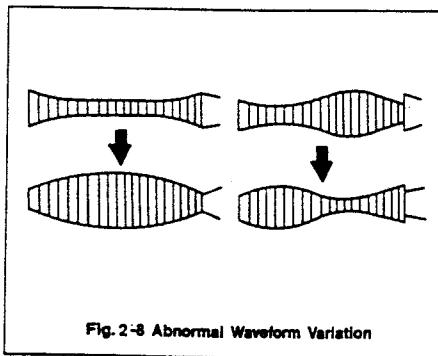

Fig. 2-8 Abnormal Waveform Variation
- If the envelope varies as shown in Fig. 2-8, adjustment of the S-Guide Roller and the TGuide Roller may be upset and then perform the adjustment again.